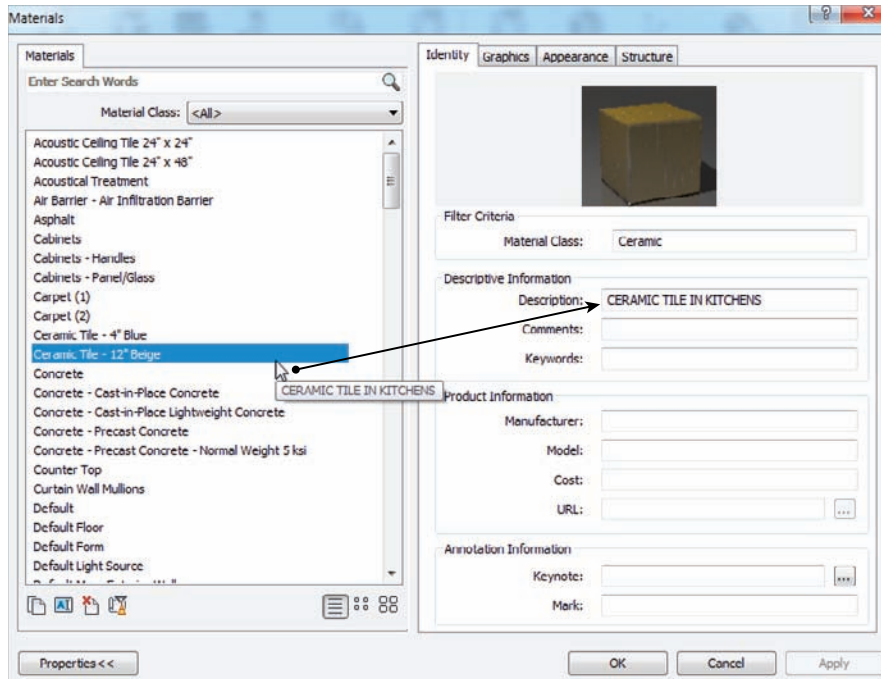

FIGURE 11.74 Changing the description of the material can result in automatic notation of your model.
2. Find the material called Ceramic Tile - 12" Beige, as shown in Figure 11.74, and select it. (You made it earlier when you were doing the floors in Chapter 6, "Floors.")
3. To the right of the Materials dialog are four tabs: Graphics, Appearance, Identity, and Structure. Click the Identity tab, as shown in Figure 11.74.
4. In the Descriptive Information section, click the Description field and type **CERAMIC TILE IN KITCHENS** (see Figure 11.74). Click Apply, and the tooltip will display the new description.